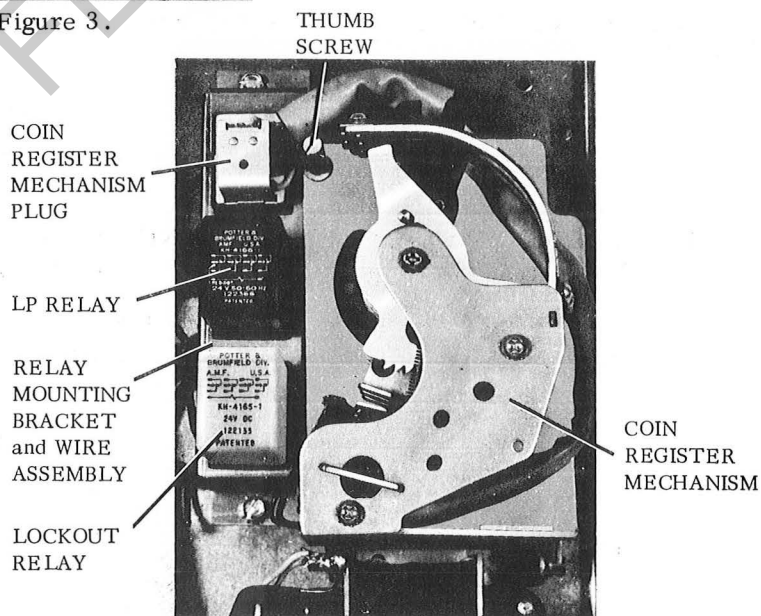

Figure 5.
27. Install new White LOCKOUT RELAY, Part No. 122133, in Lockout Relay Socket as shown in Figure 5.
28. Install Red LP RELAY, removed in Step 7, in LP Relay Socket as shown in Figure 5.
30. Reinstall COIN REGISTER MECHANISM in Selector Mechanism Assembly. Secure with THUMB SCREW, removed in Step 4, as shown in Figure 5.
31. Reconnect COIN REGISTER MECHANISM PLUG in Coin Register Mechanism Socket as shown in Figure 5.